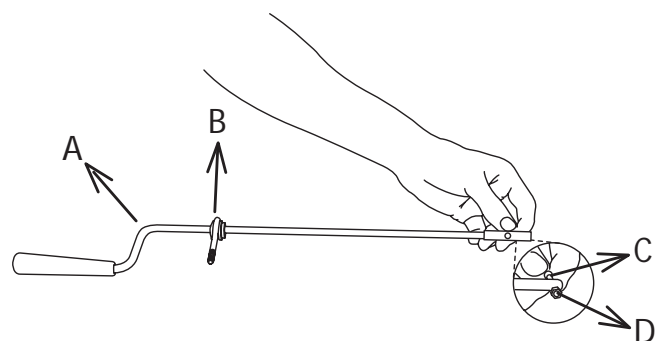

Figure 13
3. Locate the upper chute crank in the parts bag. Remove the screw and nut from the upper chute crank using a Phillips screwdriver and the wrench provided (Fig. 13).